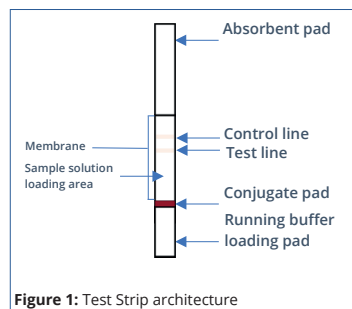

Figure 1: Test Strip architecture
2. Add **5 µl** of this solution to the **Test Strip** in the 'Sample solution loading area' of the membrane as marked in Figure 1, above.